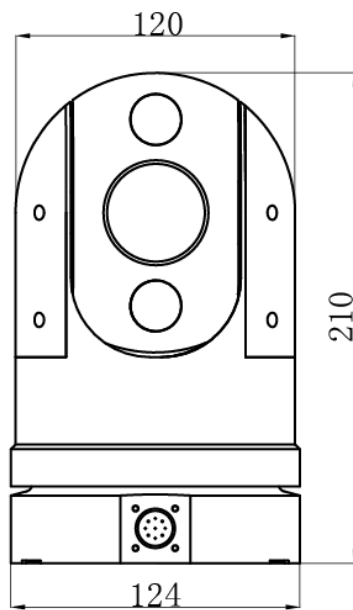

Figure 11
1. Dimension as Figure 11 shows.